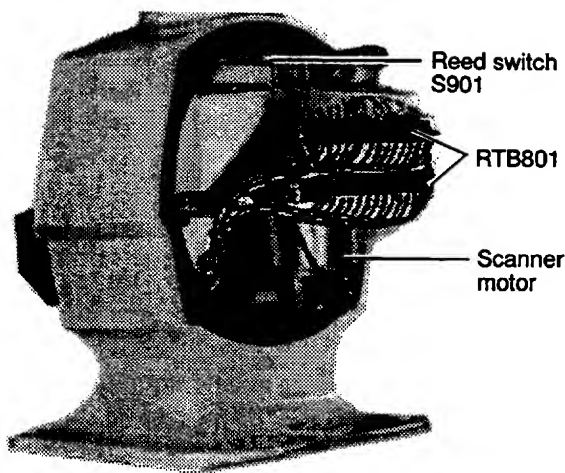

Figure 13 Scanner unit, rear view, cover opened
- 10) Bind cores with cable ties as shown in Figure 13.